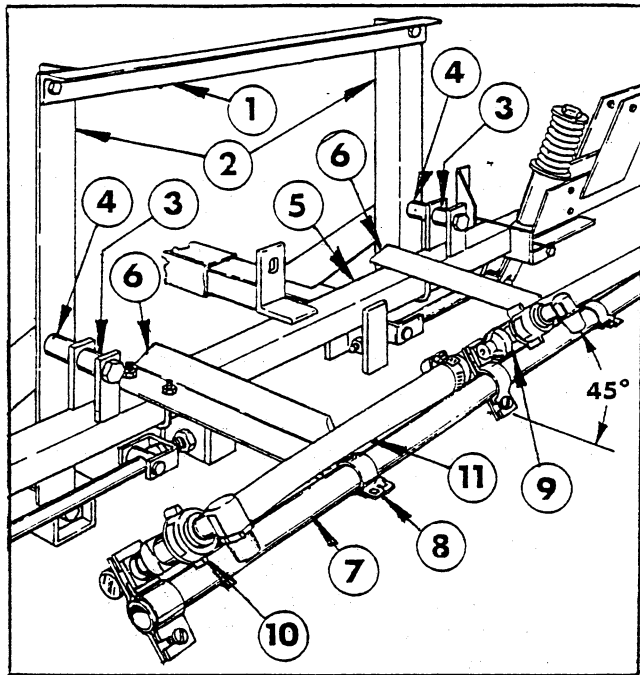

FIG. 6
2. Position the Spacer Tubes between the Boom Mount uprights and the lugs on the Main Frame Tube. Use two 1/2"x 4" hex hd cap screws and lock nuts to secure the Main Frame Tube to the uprights. See FIG. 6.
4. Position the two Center Boom Angles on the Main Frame Tube as shown in FIG. 6 and secure them to the Frame Tube with "U"-bolts and lock nuts.
6. Loosely attach the triple barb Nozzle Assembly in the approximate center of the Center Boom Pipe. For the most uniform spray coverage, position all Nozzle Assemblies at a 45° angle as shown in FIG. 6. Tighten clamp screw to secure the Nozzle to the Boom Pipe.